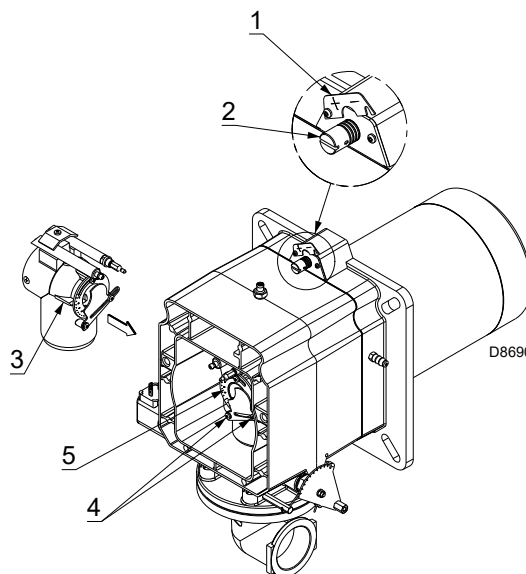

Fig. 16
- rotate the screw 2)(Fig. 16) until the notch you have found corresponds with the front surface 1) of the flange.
To facilitate the adjustment, loosen the screw 3)(Fig. 16); adjust, then lock in place.
- loosen the screws 4) and rotate the ring nut 5)(Fig. 16) until the notch you have found corresponds with the indicator 3);